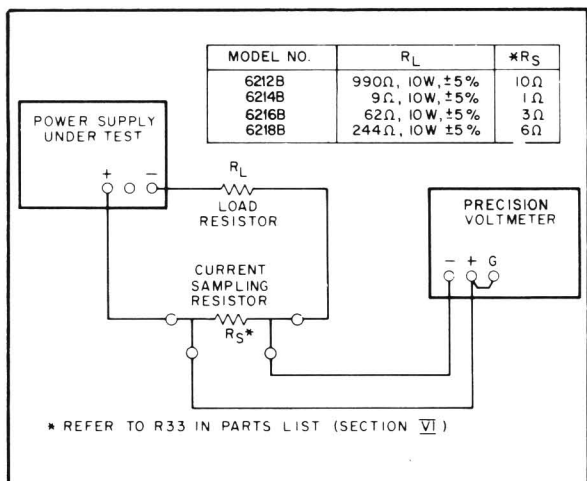

Figure 5-8. Constant Current, Test Setup
- Connect test setup shown in Figure 5-8.
- Utilize test setup shown in Figure 5-8.